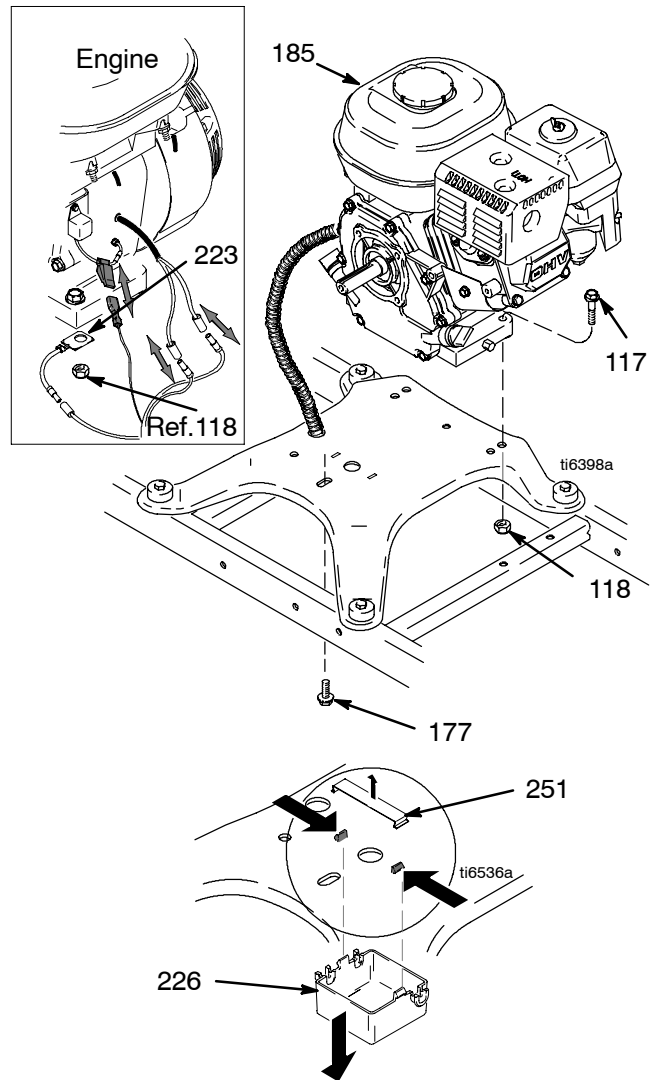

Fig. 12
2. Fig. 12. Remove clip (251) and junction box (226).
13. Fig. 12. Install junction box (226) with clip (251).
4. Fig. 12. Remove screw (177). Remove two screws (117), locknuts (118), and ground conductor (230, 260) from base of engine (185).
2. Fig. 12. Install two screws (117) and ground conductor (223, 260) in base of engine and secure with locknuts (118). Torque to 20 to 30 ft.-lb.